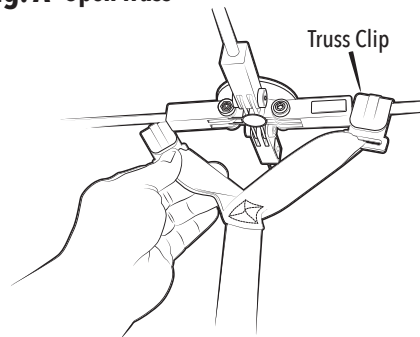

Fig. A2 Cross Truss
- 1) Locate the center Center Ceiling Truss Clips (with short gray webbing). (Fig. A2)